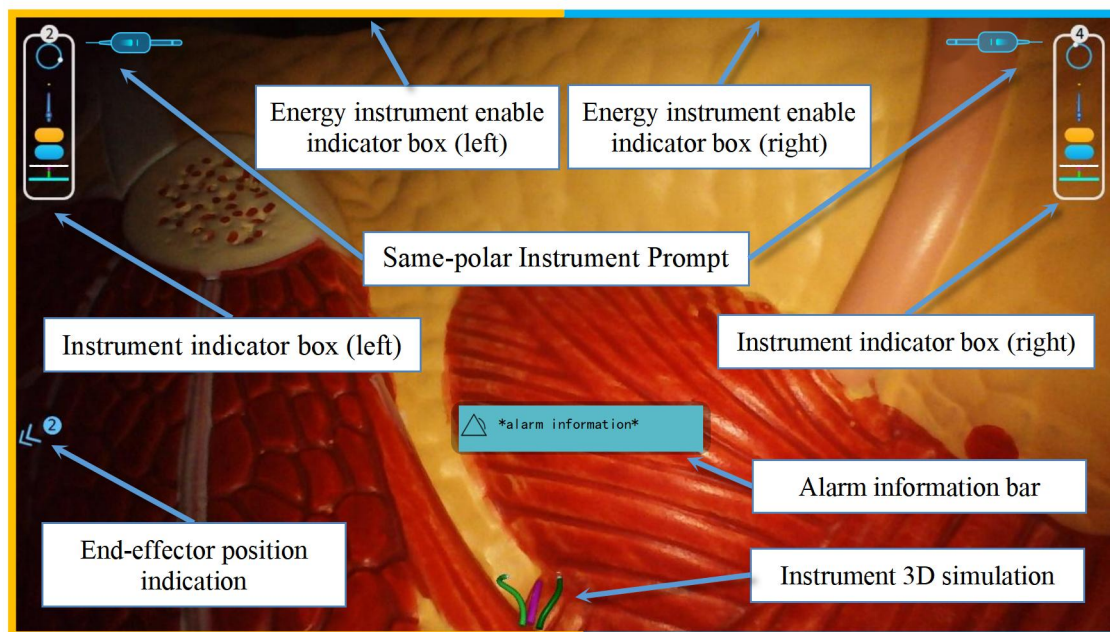

Figure 10.21 Surgeon Console 3D viewer interface
7) Same-polar Instrument Prompt: When surgical instruments of the same polarity are installed and advanced into the body, a prompt indicates that the polar mode of the left-hand instrument and right-hand instrument is identical (the illustration in Figure 10.21 shows a prompt for two monopolar surgical instruments being installed simultaneously).